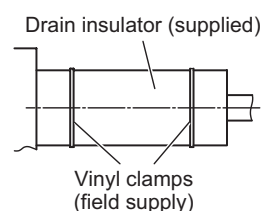

Fig. 2-95
- (2) After connecting the drain pipe securely, wrap the supplied packing and drain pipe insulator around the pipe, then secure it with the vinyl clamps. (Fig. 2-95)